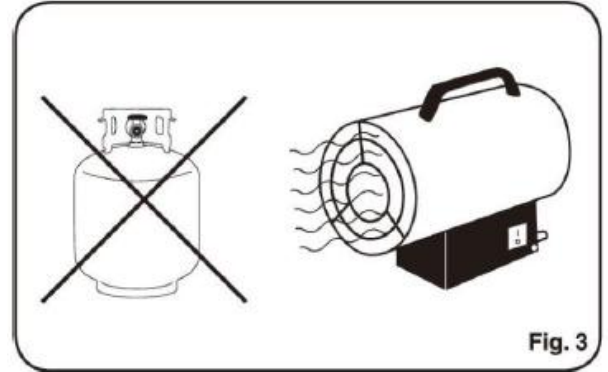

Fig. 3
## - PROPARING FOR OPERATION (Fig.3):
- Check the heater thoroughly for damage. Do not use a damaged heater. Be sure the heating area is adequately ventilated, free of moisture and dust, far away from any combustibile material. Always put the gas cylinder behind the heater in a stable position. Never put the gas cylinder in front of the heater (Fig.3.).